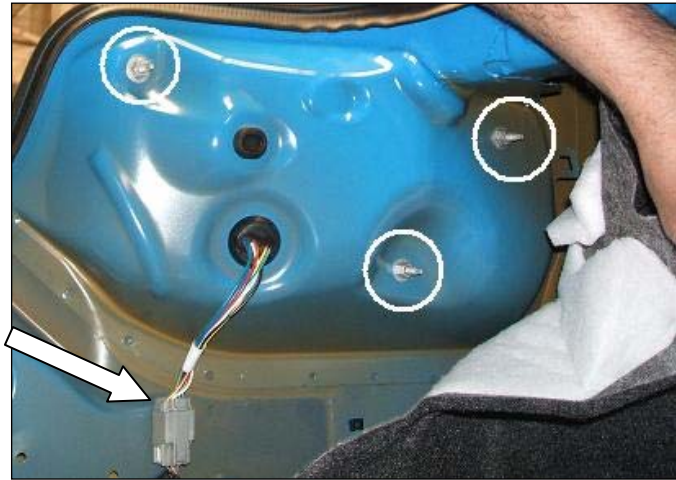
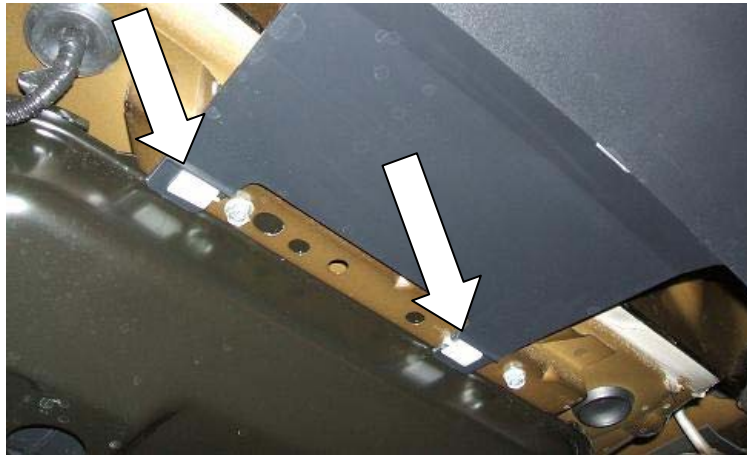

Figure 5
Figure 7
12. With an 11 mm socket and ratchet, remove the six (6) nuts. (three nuts per side)
13. Push the wire harness grommet and connector through the grommet hole and remove the tail light assemblies. Refer to Figure 5 for steps 10, 11, 12 & 13.
- Using a forked push pin tool, remove the two (2) bottom center W-Clip fasteners at the rear center valance attachment flange. Refer to Figure 7.
31. Press the two (2) W-Clip retainers on the lower center mounting flange to the holes in the underbody sheet metal. Refer back to Figure 7.
33. Reinstall the left and right tail lamp assemblies. Feed the connector and wiring through the grommet hole. Press and seat the grommet into place. Reinstall the six (6) nuts (3 per side) and torque them to 6 Nm (53 lb-in). Return the trunk side liners to their original positions.
34. Reconnect the tail lamp wiring connectors to the body wiring harness connectors. Ensure the connectors are fully inserted. Refer back to Figure 5.